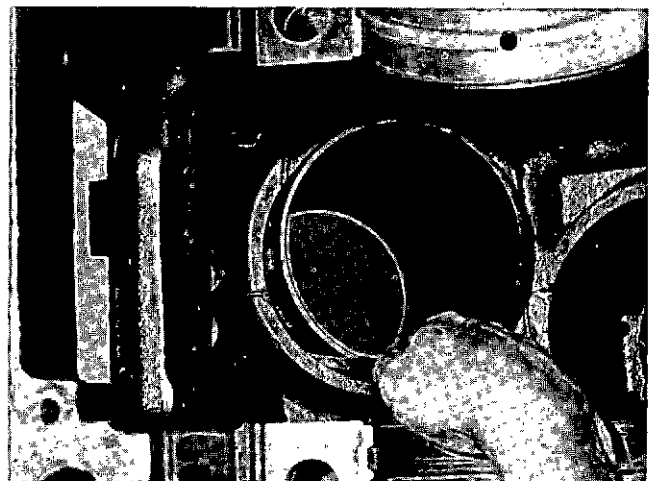

Fig. 1-1-8, V40125. Checking clearance between block and liner
1. Install a new cylinder liner in the block without packing rings or crevice seal, Fig. 1-1-8.